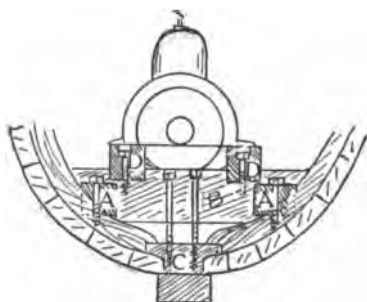
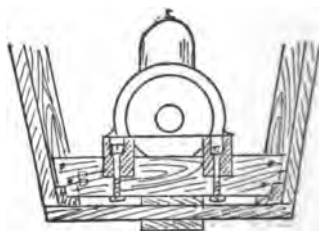

Fig. 14
Fig. 15
The exact method of making an engine-bed in a boat is governed to a great extent by the size and form of the boat, the position and size of its timbers, the accessibility of the location, and other factors. The timbers for making the bed should be of well-seasoned hardwood, of ample size and strength, and should be securely bolted to the ribs and keel, but *not to the planking*. A very good method is to use two long timbers running lengthwise, or fore and aft, of the boat and fastened securely to the ribs (A, A, Fig. 14). Across these other timbers (B, B) should be fitted, and bolted to both the long timbers (A, A) and the keel (C). On top of these cross-timbers the engine-bed proper (D, D) may be fastened. In flat-bottomed boats timbers may be set across the boat, bolted to keel and sides, and the engine-bed bolted on top of these (Fig. 15). This method takes the jar and vibration from the floors and planks and furnishes a very rigid bed.